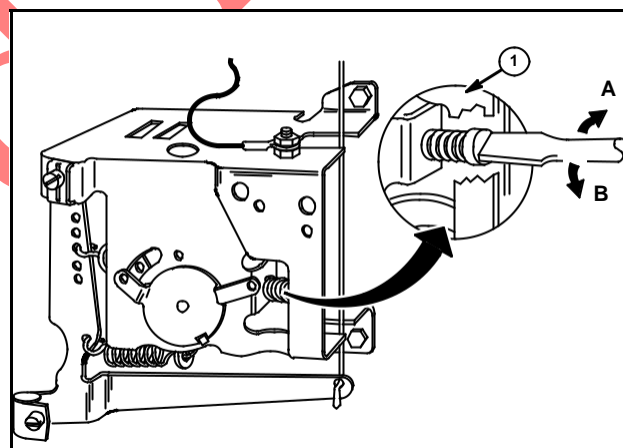

Fig. 32
1. On Model Series 253400, 255400 with speed control at fast position, turn screw (1) to set TOP NO LOAD RPM, Fig. 32.